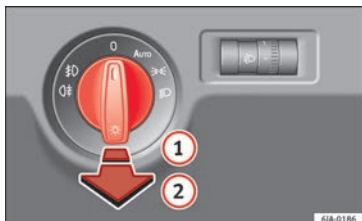

Fig. 132 Instrument panel: light switch.
- First turn the light switch » Fig. 132 to position **AUTO**, ☞ or ☞.
- Pull on the light switch to position ①.
- First turn the light switch » Fig. 132 » page 120 to position **AUTO**, ☞ or ☞.
- Pull on the light switch to position ②.